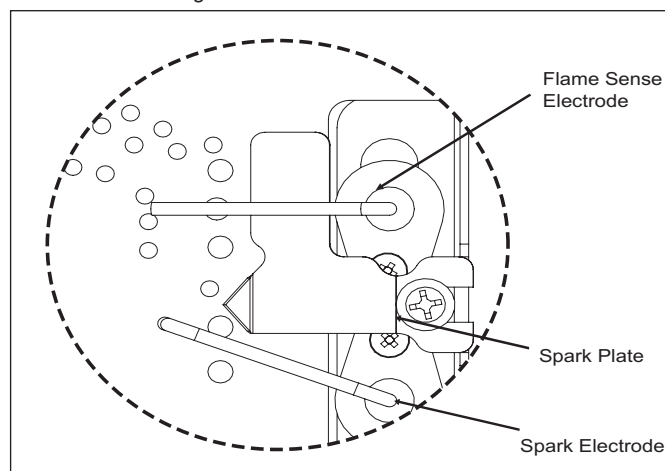

FIG 25
6. Replace in reverse order, checking correct location of spark/sense electrodes. Refer to **FIG 25**. Spark gap between electrode and spark plate is 6 - 8 mm. Flame sense electrode MUST be in constant flame. Check for gas tightness. For log placement, refer to page 13 of this manual.